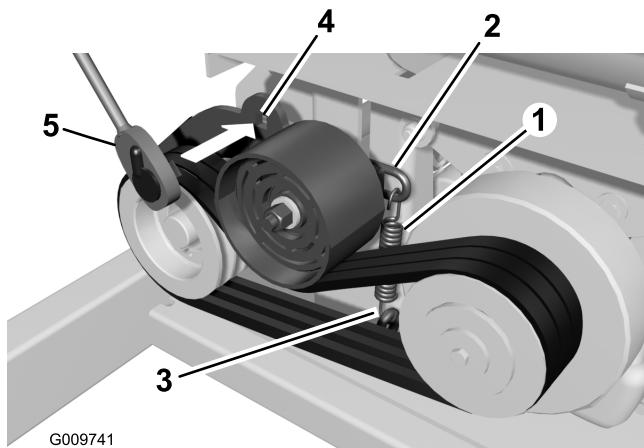
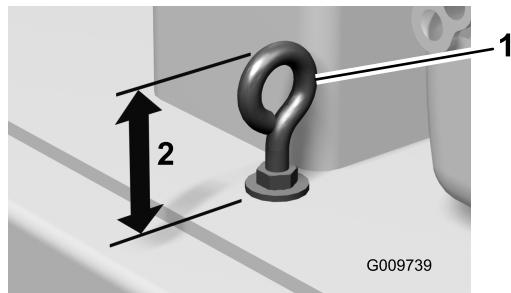

Figure 55
Figure 58
2. Check the condition of the belt (Figure 55).
B. Insert a socket wrench into the square hole in the idler arm and rotate the wrench upward (Figure 55).
4. To increase the spring tension thus increasing the belt tension, shorten the eye bolt height by loosening the top eye bolt nut and tightening the lower nut (Figure 55 & Figure 58).